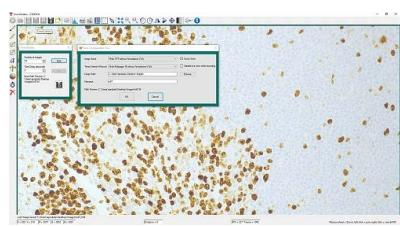

Figure 1: A timed series of 10 images taken at 1 second intervals is saved as a multipage TIFF.
The Timed Series control, shown in Figure 1, allows time-lapse images to be recorded. Simply set the total number of images and the time delay in between captures. The output will be saved in a multi-page TIFF file in order to preserve the high-precision, unaltered image data. Controls within ThorCam allow the user to play the sequence of images or step through them frame by frame.
Our scientific cameras have three externally triggered operating modes: streaming overlapped exposure, asynchronous triggered acquisition, and bulb exposure driven by an externally generated trigger pulse. The trigger modes operate independently of the readout (e.g., 20 or 40 MHz; binning) settings as well as gain and offset. Figures 1 through 3 show the timing diagrams for these trigger modes, assuming an active low external TTL trigger.
Figure 1: Streaming overlapped exposure mode. When the external trigger goes low, the exposure begins, and continues for the software-selected exposure time, followed by the readout. This sequence then repeats at the set time interval. Subsequent external triggers are ignored until the camera operation is halted.
- "**Frames per Trigger**" (Blue Highlight) Set to Zero or >1: The camera will operate in streaming overlaped exposure mode (Figure 1).